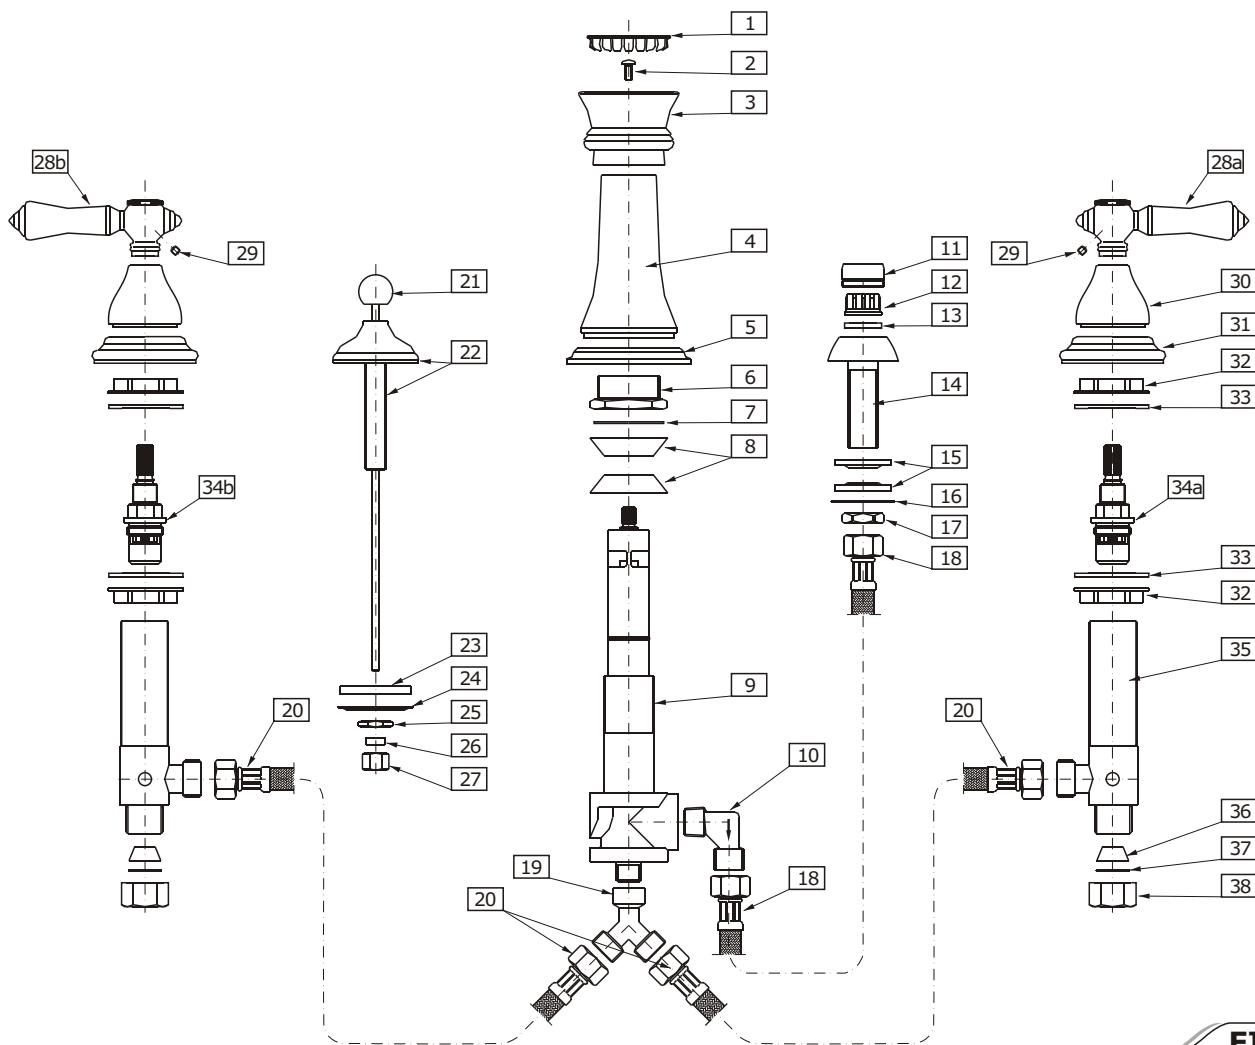
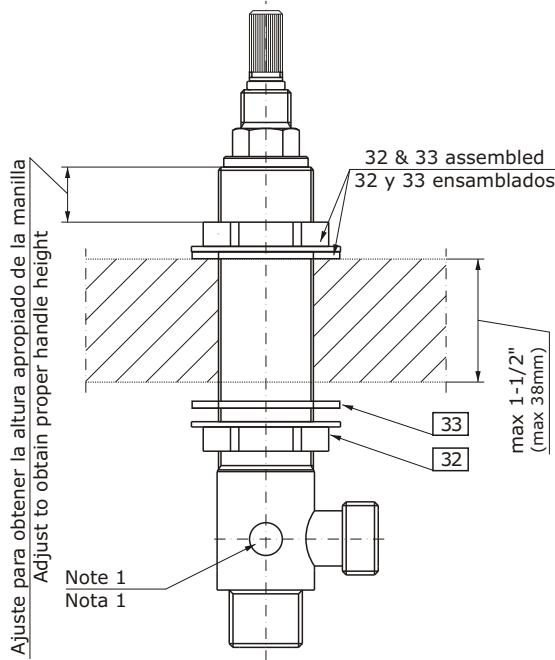

FIG. 1
FIG. 2
► Spin the bottom valve mounting nuts (32) all the way down the valve and remove the top nut and washers. Insert valve (35) up through the hole in the deck, then drop on the washer (33) and the top mounting nut.
► Connect hose (20 fig.1) to the outlet connection of the valve. The other end of the hose should be connected to T-connection (19 fig.1) after spout installation.
► Test the correct distance of valve thread (see fig.2) by temporarily placing the handle pieces over the valve. After you have checked the fitting, remove handle pieces and tighten the mounting nuts (32 fig.2) with a wrench.
► Remount handle pieces: First handle base (31). Position base over side hole of mounting surface¹⁾. Second screw shroud (30) onto valve until against base. Do not overtighten.
► Insert LEFT handle (28b fig.1) on the RED marked valve and RIGHT handle (28a fig.1) on the BLUE marked valve.